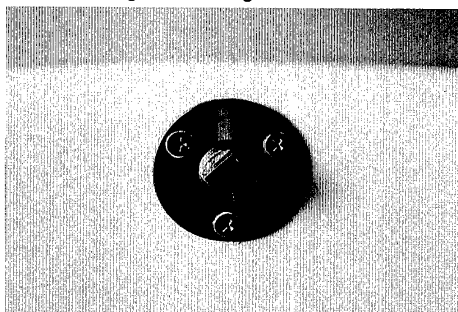

Figure 27
1. Remove the hull drain plug. The plug is in the outside of the transom below the gimbal. See figure 27.